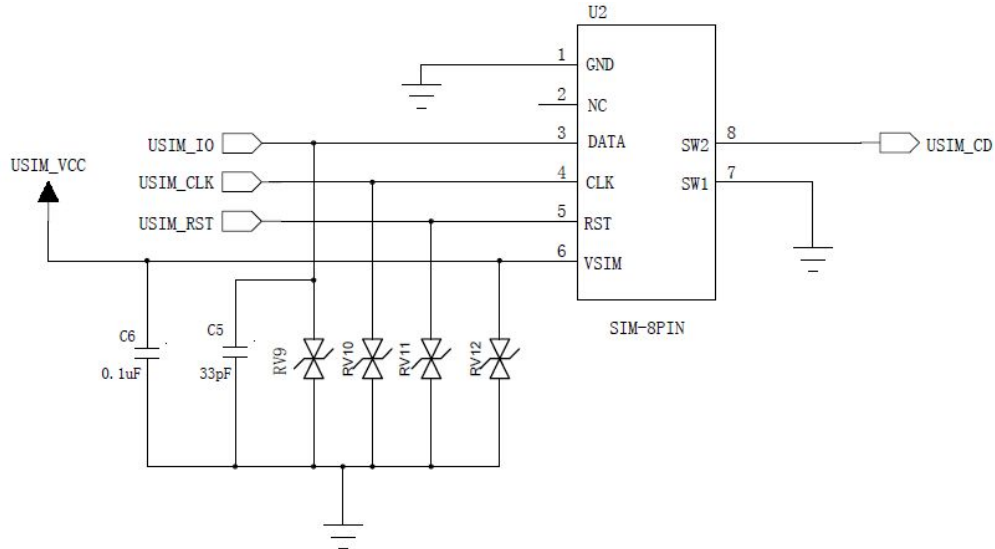

Figure 5-8 Reference Design of “Normally Closed” SIM Card Interface
- For “Normal closed” SIM card, as shown in the figure5-8, USIM_CD signal line is connected to U2's Pin8 (SW2), and Pin7 (SW1) is connected to the ground. When the SIM card is not inserted, SW2 and SW1 short circuit, SW2 will be at low level. When the SIM card is inserted, SW2 and SW1 will be disconnected, USIM_CD level will be pulled up.